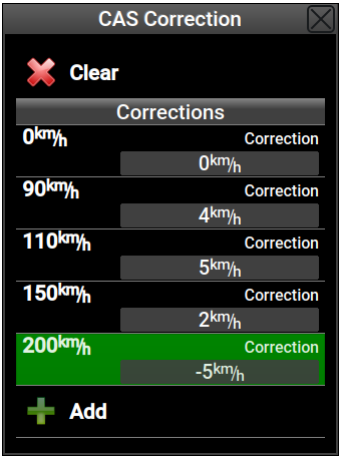

Figure 4.27: An example of the CAS correction table.
2. Enter points as shown in the Figure 4.27.